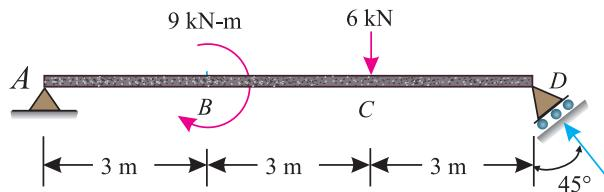

Fig. 12.25.
**Example 12.10.** Fig. 12.25 shows a beam ABCD simply supported on a hinged support at A and at D on a roller support inclined at  $45^\circ$  with the vertical.